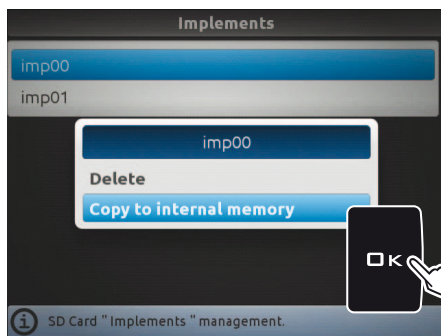

Fig. 283
- Select the item **Copy to internal memory** (Fig. 283) and press **OK**;